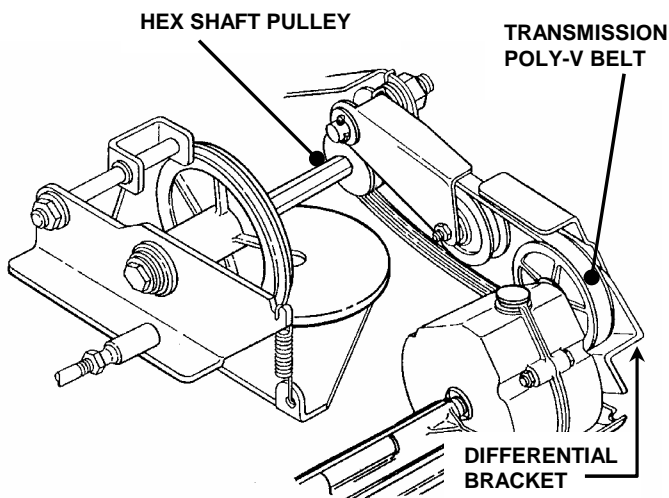

FIGURE 4.11
2. Note the routing of the old belt around the three pulleys before removing it. See Figure 4.11.